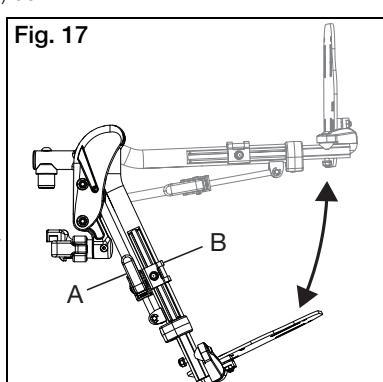

Fig. 17
1. To raise the Pro ELR, lift the leg rest tube (Fig. 17:A) to desired angle of elevation.
2. To lower the Pro ELR, press and hold the lever lock (Fig. 17:B) while pushing the leg rest tube (Fig. 17:A) down.